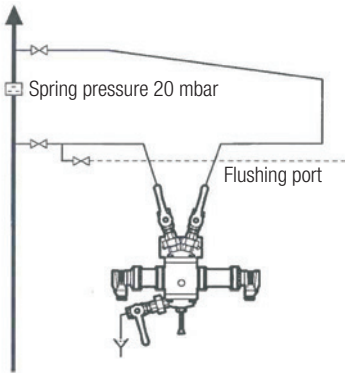

Fig. 8
- Fig. 8** Sensor installed in a bypass of a product line with upward flow.
1. Slacken the screw **27**. **Fig. 8**